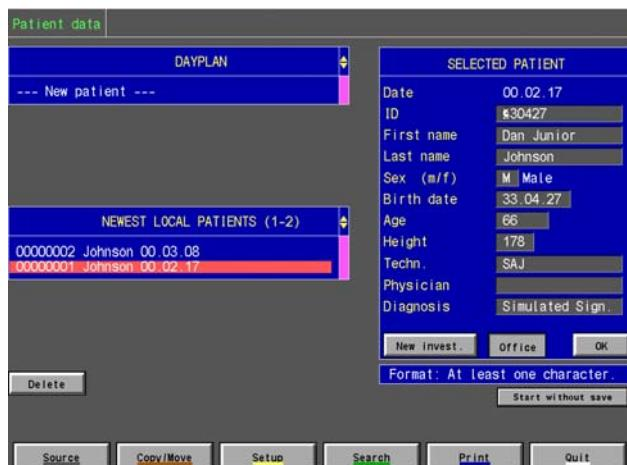

Figure 4 New Invest and OK Buttons. Vertical Scroll Bar.
When the Patient data has been entered, a  button appears in the lower right of the Selected Patient box, see Figure 4
- Use the vertical scroll bar to the right, to scroll through the listed patients. The scroll box moves in up- and downward directions, see Figure 4
- Then click **OK**, or **New invest.** to proceed to select a test, see Figure 4